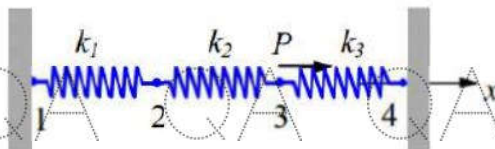

Figure 1
2. For the spring system shown in the figure 1. Find the displacements at the nodes and the reactions. Given $K_1=100$ N/mm, $K_2=200$ N/mm, $K_3=100$ N/mm, $P=500$ N. [10]